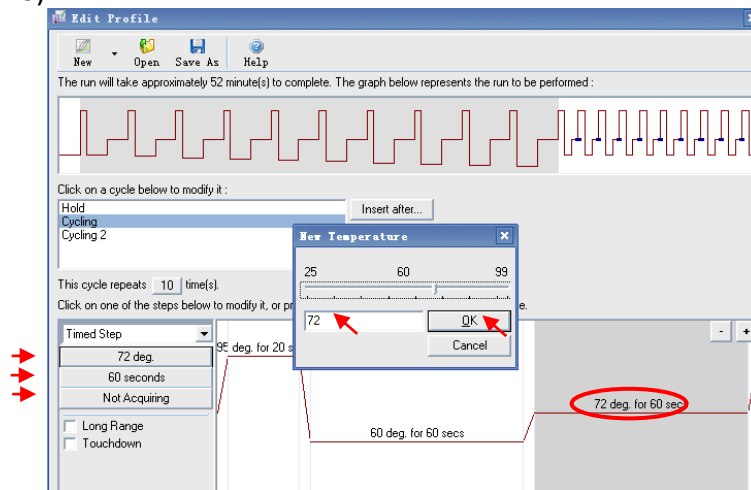

Figure 10
e. Choose the third step of cycling, set the temperature as 72 degrees, set the time as 30 seconds and choose “not acquiring”. Click on “OK” to complete the set up of the cycling stage (Figure 10).